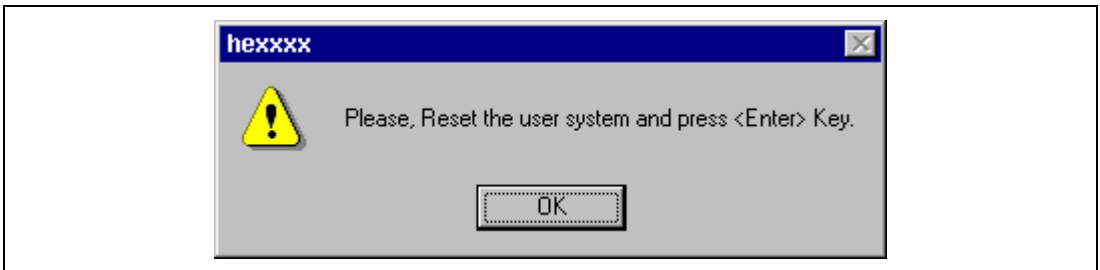

Figure 3.21 Dialog Box of the RESET Signal Input Request Message
9. The dialog box shown in figure 3.21 is displayed.